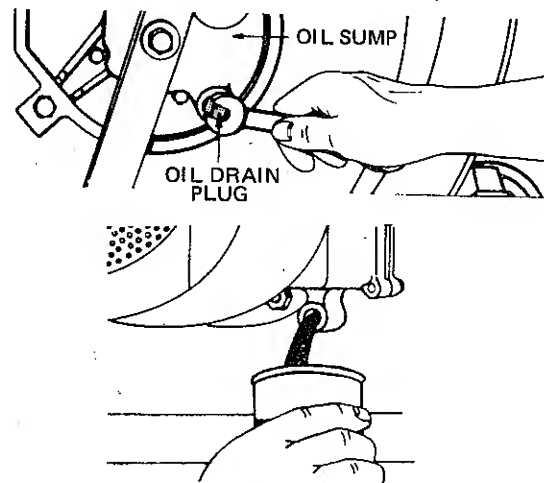

Figure 13
1. **CHANGE OIL** every 25 hours after first change of 5 hours. Oil may be drained through oil drain on bottom of engine (Figure 13) or oil fill hole. When draining through oil fill hole, empty fuel tank or keep engine spark plug side up.